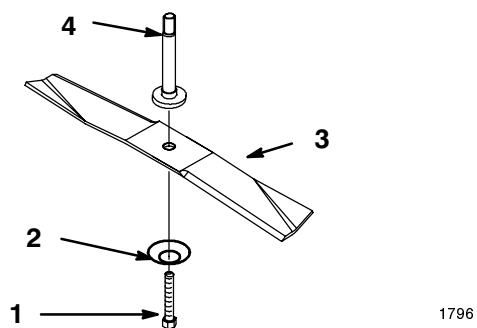

Figure 35
3. Remove the bolt, curved washer, and blade (Fig. 35). A block of wood may be wedged between the blade and the mower to lock the blade when you are removing the bolt.
- Install the blade, curved washer (cupped side toward blade), and the blade bolt (Fig. 35).